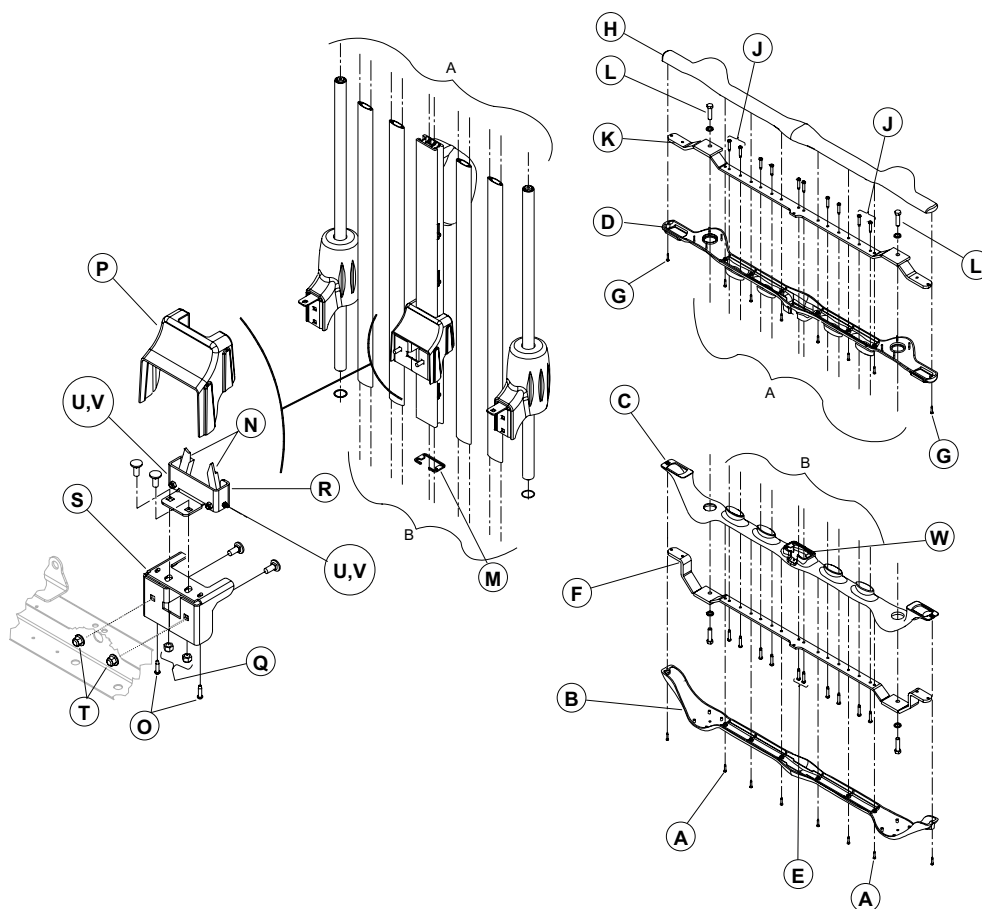

Figure 29 – Siderail central column replacement (fixed access doors)
4. Using a #1 Phillips screwdriver, remove the eight screws (A) that secure the bottom half of the lower plastic cover (B) to the top half of the lower plastic cover (C) (Figure 29). Save the screws.
6. Using a #2 Phillips screwdriver, remove the two screws (E) that secure the lower end of the central column to the lower structural member (Figure 29). Save the screws.
9. Using a #1 Phillips screwdriver, remove the eight screws (G) that secure the top half of the upper plastic cover (H) to the bottom half of the upper plastic cover (Figure 29). Save the screws.
13. Using a #2 Phillips screwdriver, remove the ten screws (J) that secure the upper end of the posts and the central column to the upper structural member (K) (Figure 29). Save the screws.
14. Using a 1/2" socket, remove the two bolts and two washers (L) that secure the upper end of the two guide posts to the structural member (K) (Figure 29). Save the bolts and washers.
18. Install the new column. Insert the bottom end into the brake shoe and slide the column until the bottom is seated in the cavity (W) of the lower plastic cover. Use caution to avoid damaging the seal while you insert the column into the lower plastic cover. See the note following step 16. While the column slides through the brake shoe, rotate the handle to open the lock stops (N) when the column reaches each of the fixed stops (Figure 29).
22. Using a #2 Phillips screwdriver, remove the two screws (O) that secure the brake shoe cover (S) to the brake shoe support. Remove and save the cover (Figure 29).
23. Using a 1/2" socket, loosen the two locknuts (Q) that secure the brake shoe (R) to the brake shoe support (S). Remove and save the two locknuts (T) that secure the brake shoe support to the frame (Figure 29).
24. Move the brake shoe back and forth (head end to foot end) and the brake shoe support left to right to position the stop catches (N) (Figure 29). Tighten the locknuts.
25. If the stop catches still rub on the plastic extrusion, loosen the locknut (U) using a 3/8" combination wrench. Turn the adjustment screw (V) using a 3/32" Allen wrench until the proper alignment is achieved (Figure 29).
3. Using a #1 Phillips screwdriver, remove the eight screws (A) that secure the bottom half of the lower plastic cover (B) to the top half of the lower plastic cover (D) (Figure 29). Save the screws.
7. Using a #1 Phillips screwdriver, remove the eight screws (G) that secure the top half of the upper plastic cover (H) to the bottom half of the upper plastic cover (D) (Figure 29). Save the screws.
3. Using a #1 Phillips screwdriver, remove the eight screws (A) that secure the bottom half of the lower plastic cover (B) to the top half of the lower plastic cover (C). If repairing a siderail, open the access doors to reach the two screws located at the ends of the top half of the lower plastic cover (Figure 28 or Figure 29). Save the screws.
5. Using a #1 Phillips screwdriver, remove the eight screws (A) that secure the bottom of the lower plastic cover (B) to the top half of the cover (C) (Figure 29). Open the moving access door, if equipped, to reach the screws on each end of the top half of the cover (Figure 28). Save the screws.